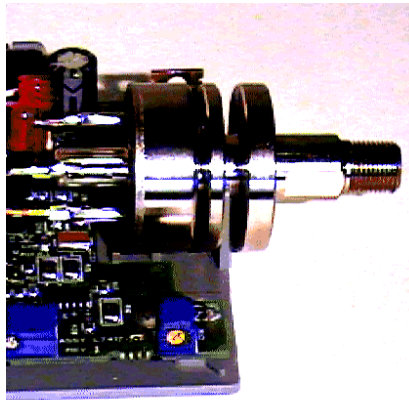

Figure 16 Sensor in its Cradle
7. Put the new sensor into the cradle. Be sure to locate the tube and wires as shown in Figure 16.